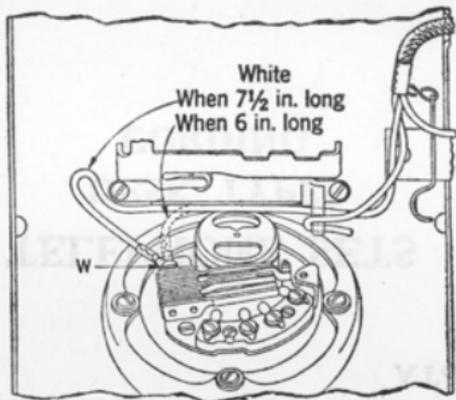
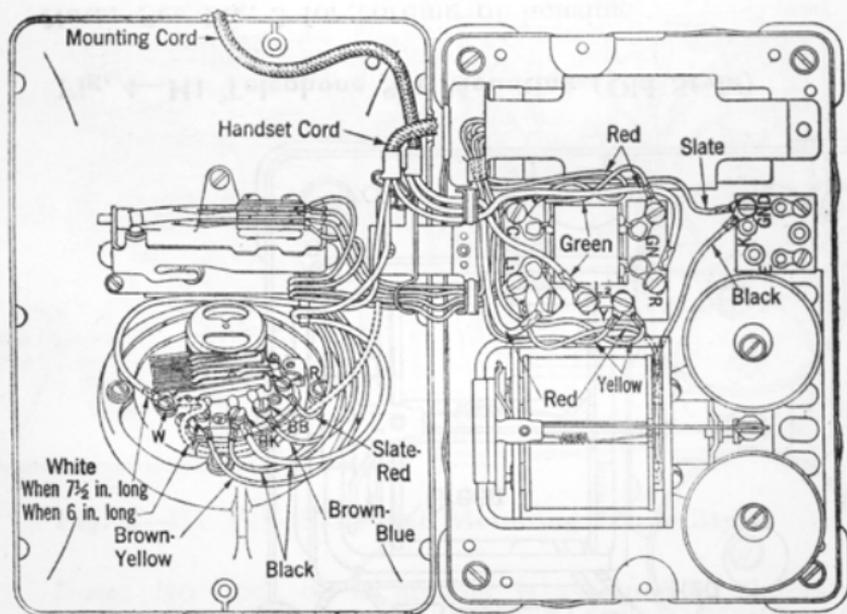

Fig. 2—Single Contact Dial
Fig. 3—H1 Telephone Set Mounting (New Style)
3.01 Figs. 3 to 12, inclusive, show the cording of dial sets equipped with twin contact dials and with standard Western Electric Company's or Connecticut Telephone and Electric Company's hand sets. Single contact dials on sets so equipped should be cored in accordance with Fig. 2.
Note: See Fig. 3 for cording of housing.